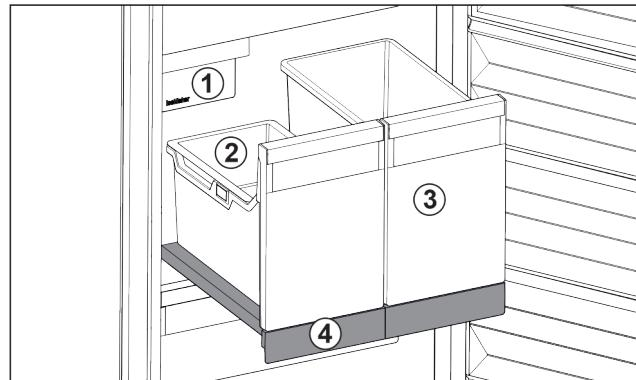

Fig. 93 Pull-out board with IceTower
- (1) IceMaker
- (2) Hang-on tray for ice cubes
- (3) Container for pizza or alcoholic beverages, for example
- (4) Pull-out board
On the pull-out board are two tall containers (IceTower). Ice cubes from the IceMaker are collected and stored in the container Fig. 93 (2). The container Fig. 93 (3) is suitable for storing tall foodstuffs or beverages such as pizzas or alcoholic drinks.